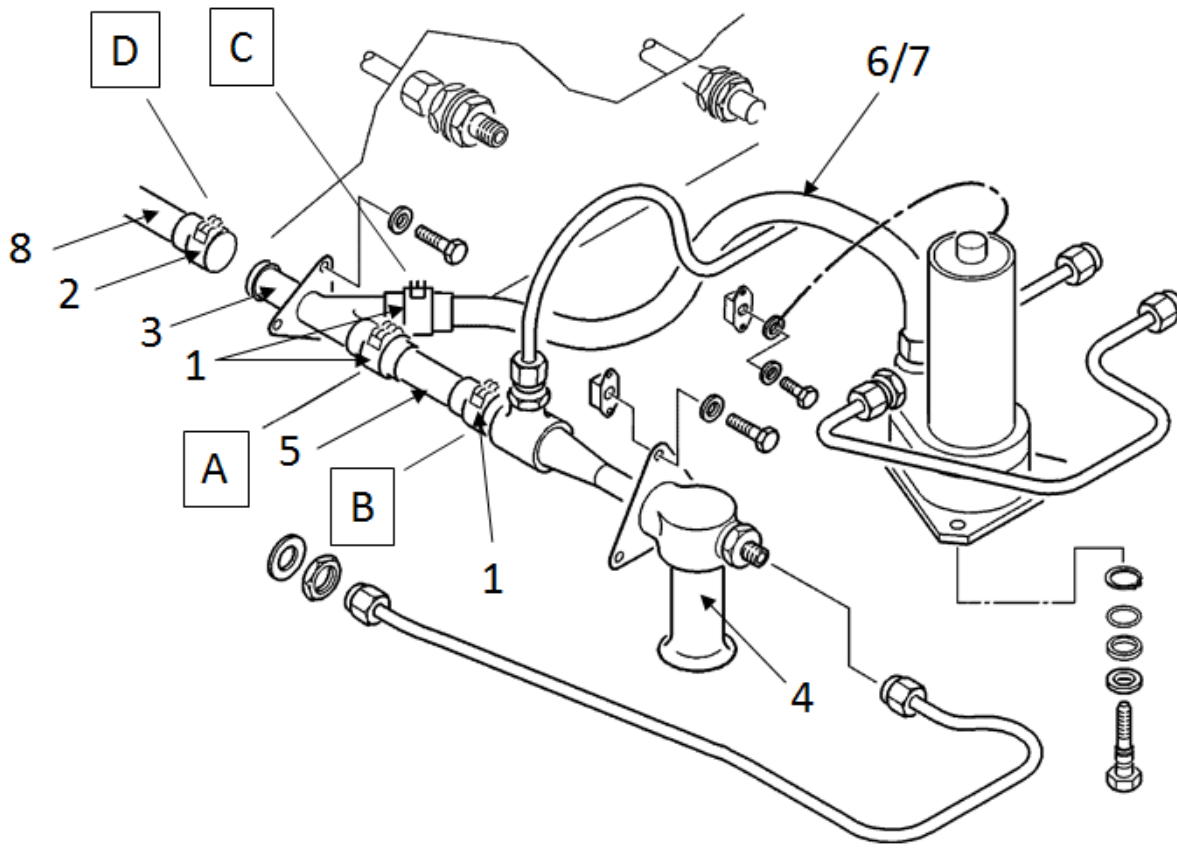

Figure 2: Clamp Identification and Findings for Reporting
Compliance with this Alert Service Bulletin must be reported to 328 Support Services GmbH Global Support Centre with the Compliance Report for Configuration Control. Fill in the tables below figure 2 on page 5 and attach it to the Compliance Report.
- 1) Inspect all Hydraflow fuel line clamps at locations A - D for damage of bonding wires in the area. Take pictures of each location for reporting purposes. Refer to Figure 2.